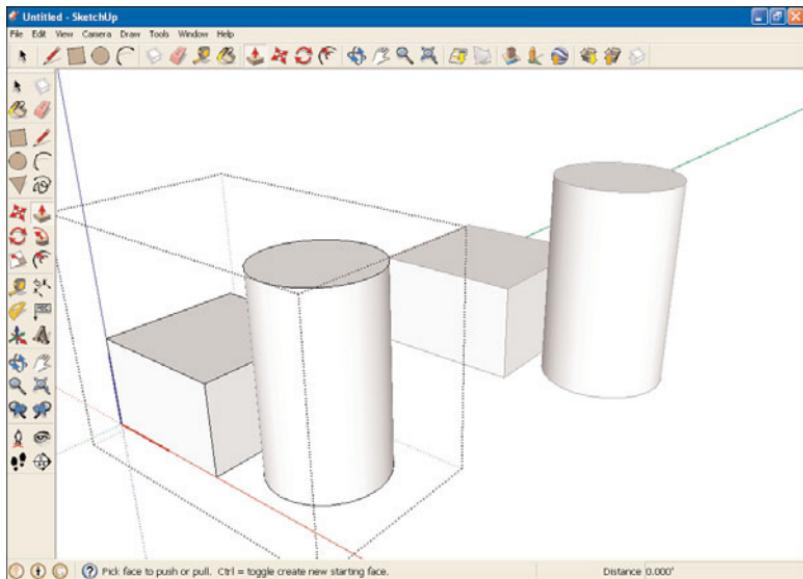

FIGURE 6.10 A component ready for editing.
- 10.** Select the **Edit Component** menu item. This will surround the component with a dotted box, as shown in Figure 6.10.